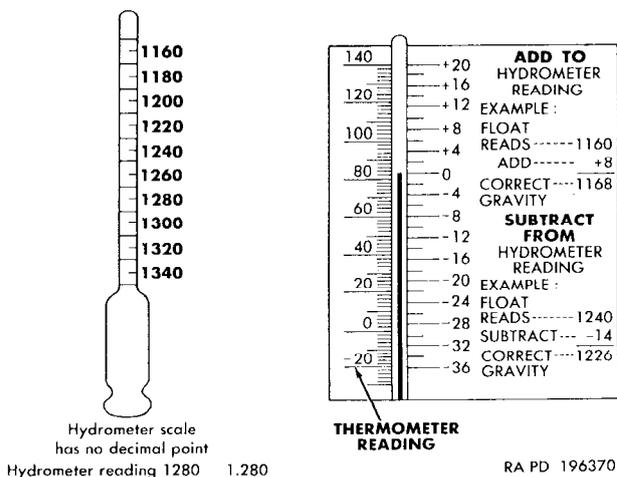

Figure 137. Hydrometer scale and temperature correction chart.
- (1) Remove the six fillercaps from each battery. Test and note the temperature of the electrolyte and test the specific gravity in each cell, using a hydrometer. Note the readings.
- (2) A specific gravity reading of 1.275 to 1.300 at 80° F. in each cell indicates a fully charged battery. A reading of less than 1.220 is unsatisfactory. Replace a battery if the reading is below 1.220 (par. 168).
- (3) If the temperature of the electrolyte is higher or lower than 80° F., compute the corrected specific gravity in accordance with the correction chart (fig. 137).
- (4) Compare the readings in the cells of the battery. The specific gravity in all cells of either battery should be the same, within 0.025. If variation is greater than this, an abnormal condition within the battery is indicated. Check the battery voltage drop (par. 90*e*). Replace either or both batteries, as required (par. 168).
- (5) Install the six fillercaps for each battery after completing the check.